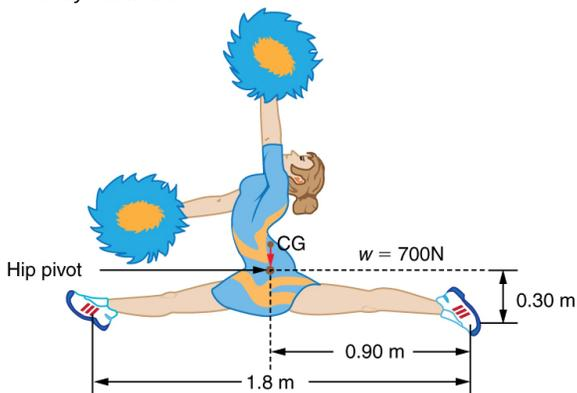

Figure 9.36 A gymnast performs full split. The center of gravity and the various distances from it are shown.
35. A gymnast is attempting to perform splits. From the information given in **Figure 9.36**, calculate the magnitude and direction of the force exerted on each foot by the floor.